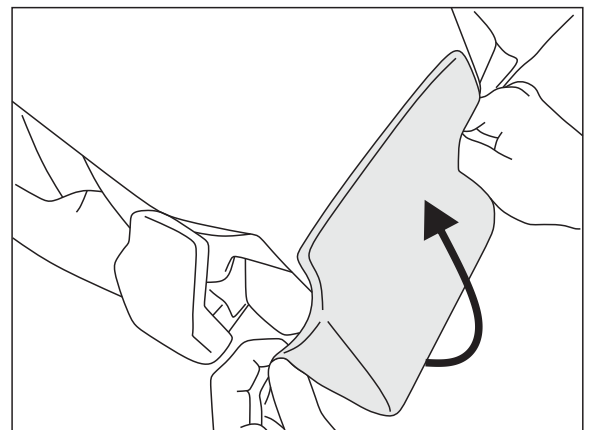

Fig. 11
11. For the small independent part of the seat below the armrest, fold armrest down and locate the small cover for this part. Place cover over the small part and feed through to the back and attach the hook and loop tapes. (Fig. 11)